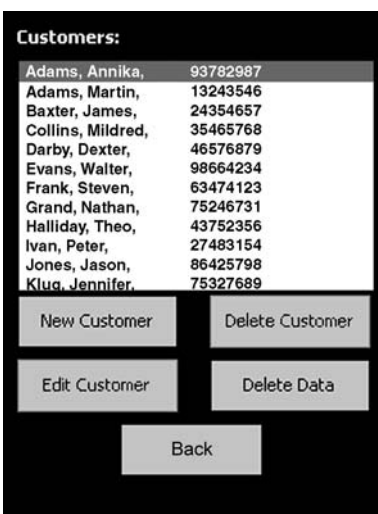

Figure 2E-1: Customer/Vehicle Screen
- The Customers screen displays. See *Figure 2E-1*.